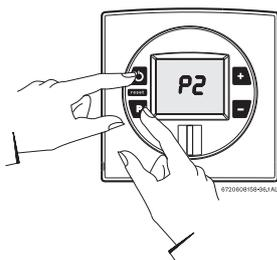

Fig. 61
- ▶ While holding the Program (P) button, press the ON/OFF button to turn ON the heater (see Fig. 61). When '188' flashes on the display, release the Program button. The display should now read P2. Press **-** button until "P1" appears on display.